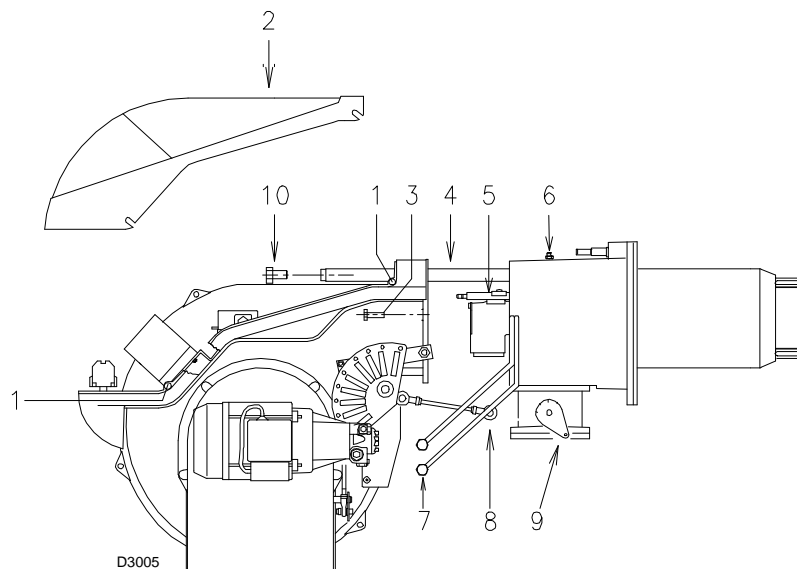

Fig. 44
Open the burner and make sure that all components of the combustion head are in good condition, not deformed by the high temperatures, free of impurities from the surroundings and correctly positioned. If in doubt, extract the internal part 5)(Fig. 44).
- Loosen screws 1) (Fig. 44) and withdraw the cover 2).